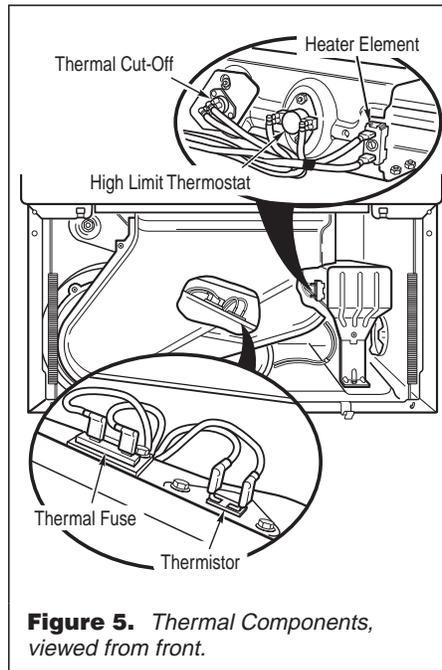

Figure 5. Thermal Components, viewed from front.
Remove the toe panel to access the thermal components. See figure 5.
The thermal fuse is wired in series with the dryer drive motor. If the thermal fuse is open, replace it. Check for failed thermistor, shorted heat element, blocked vent or other cause of failure. See Figure 5.
3. Using an ohmmeter, check the continuity across the thermal cut-off. See figure 5, page 5 for location.